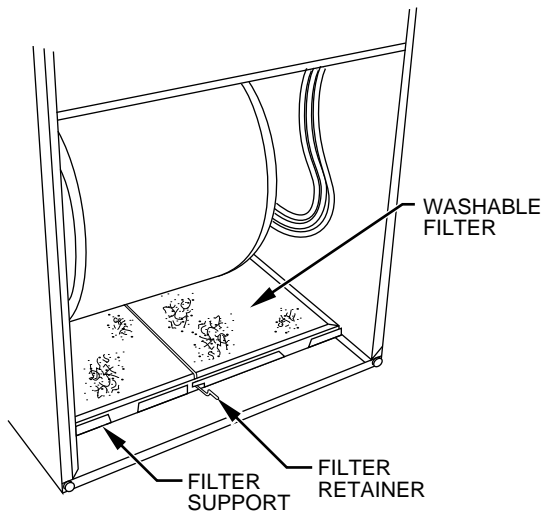

Fig. 3—Bottom Filter Arrangement
3. Release filter retainer wire. (See Fig. 3 and 4.)